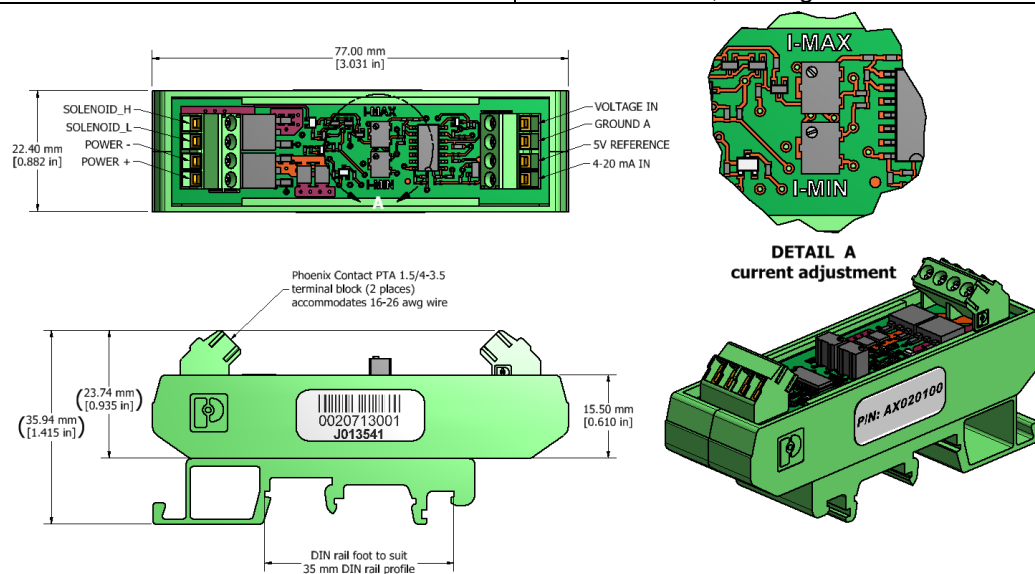

Figure 1.0 - Dimensional Drawing (Dimensions of AX020100 and AX020140 are identical.)
Electrical connection	2 4-pin Terminal Blocks Phoenix Contact P/N: PTA 1.5/4-3.5 Accepts 16-26 AWG wire. For pinout, see Figure 1.0.
Enclosure and Dimensions	PA66 Nylon, Phoenix Contact P/N: UMK-SE 11, 25-1-2970442 (housing) and UMK-FE VE 500-29063654 (DIN rail foot)  Mounts on DIN rail NS 32 or NS 35/7.5 For dimensions, see Figure 1.0.
- Connect the power supply, command potentiometer or input signal and valve solenoid as shown on Figure 1.0 and in Section 2.4. Put isolation sleeves on any unused wires for the potentiometer.
Connect the cable conductors to the power supply, input signal or potentiometer and load, as follows and per Figure 1.0.
The location of the trim pots for the set up adjustments are shown in Figure 1.0.